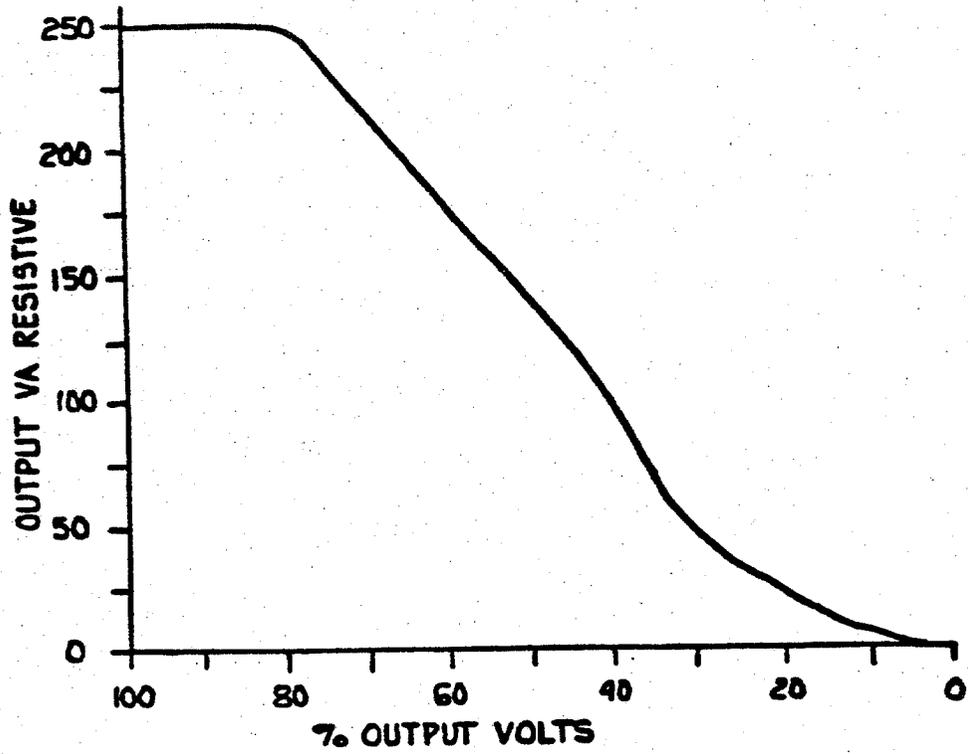
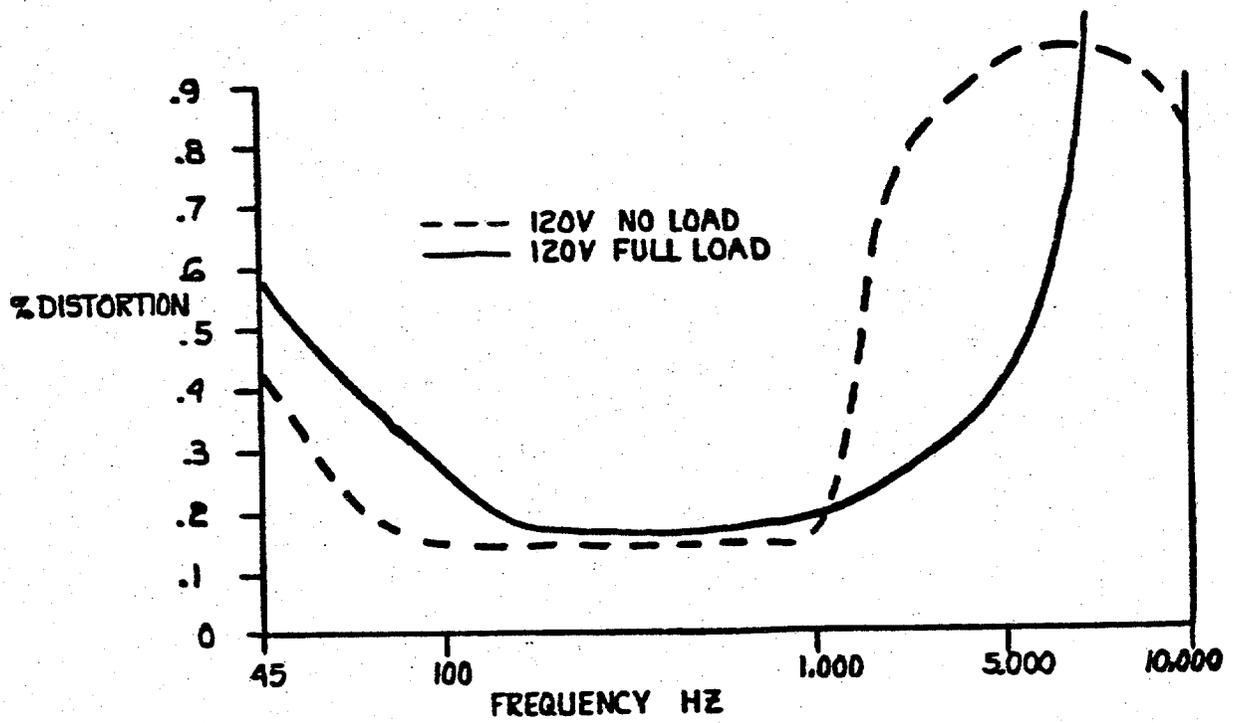

Figure 1-1. Power Output Derating
Figure 1-2. Typical Harmonic Distortion at Rated Power
1.6 Power at less than full-rated output voltage is derated as shown in Figure 1-1. Figure 1-2 shows a typical harmonic distortion curve over the frequency range of both units. The input power for both units is 115 or 230 VAC $\pm 10\%$, 47-53Hz, 1 ϕ .
1.15 The performance specifications for the Model 251B and Model 501B appear in Table 1-1. A graph illustrating output power derating appears in Figure 1-1, while still another graph illustrating the typical harmonic distortion of the power sources at rated power appears in Figure 1-2.